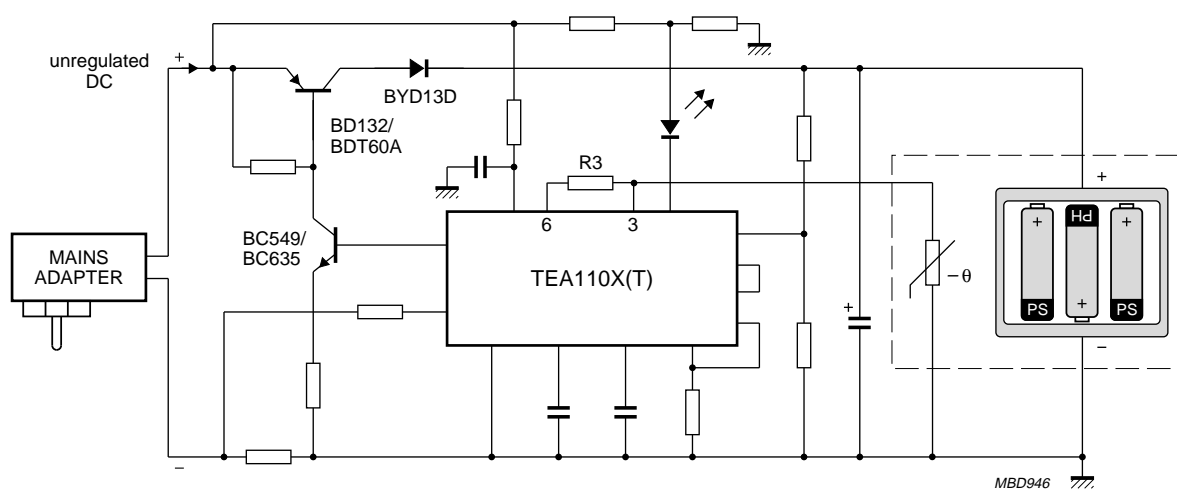

Fig.26 'Intelligent' charger based on the TEA110X with NTC battery temperature sensing.
Figure 26 shows the circuit diagram of an 'intelligent' charger designed to charge, within 1 hour, a NiCd or NiMH battery pack containing up to six AA-type cells. The TEA110X allows any type of power regulator to be used. In Fig.26, the unregulated 12 V (DC) supply is passed